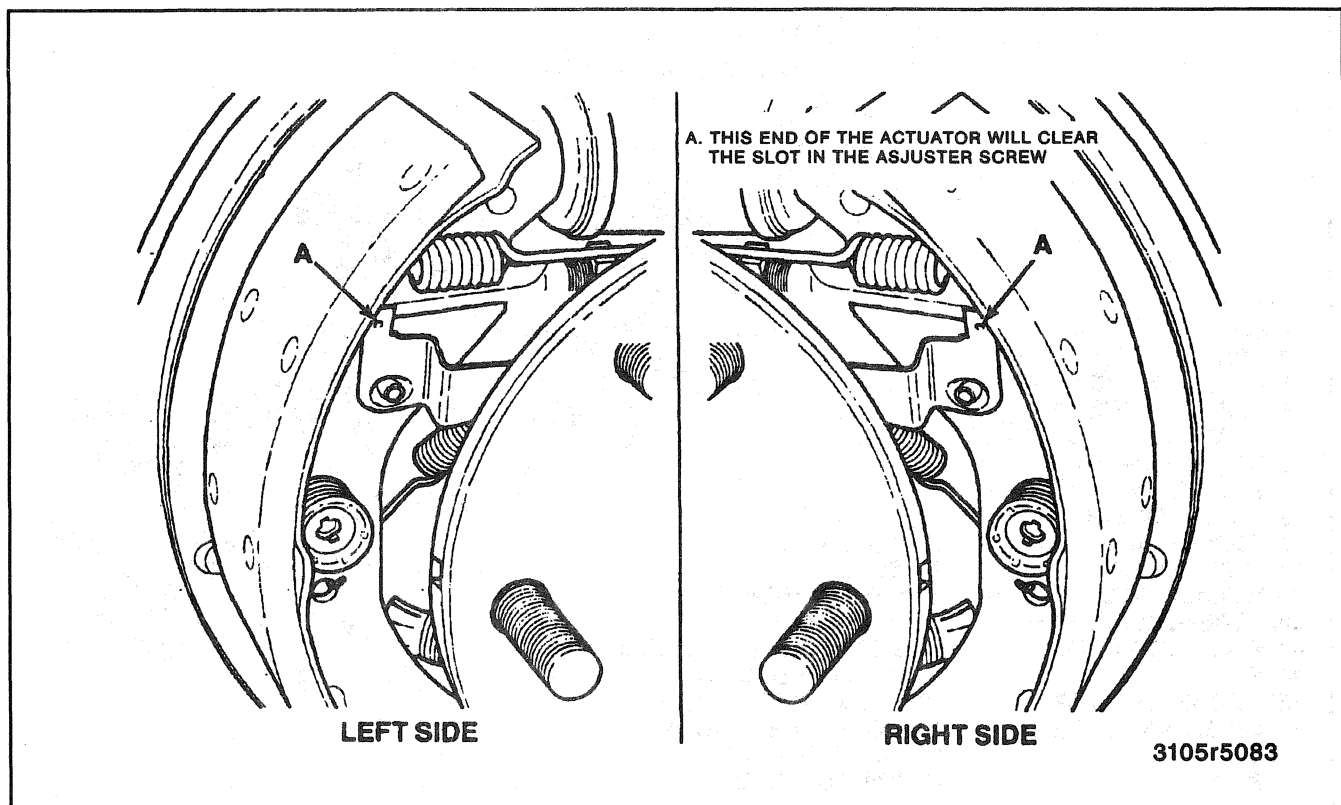

Figure 3—Removing the Adjuster Actuator
8. Lower return spring (4).
9. Hold-down pins (6) and spring assemblies (5).
10. Adjuster actuator (3) over the end of the adjuster pin (28) so the top leg engages the notch in the adjuster screw (Figure 3).